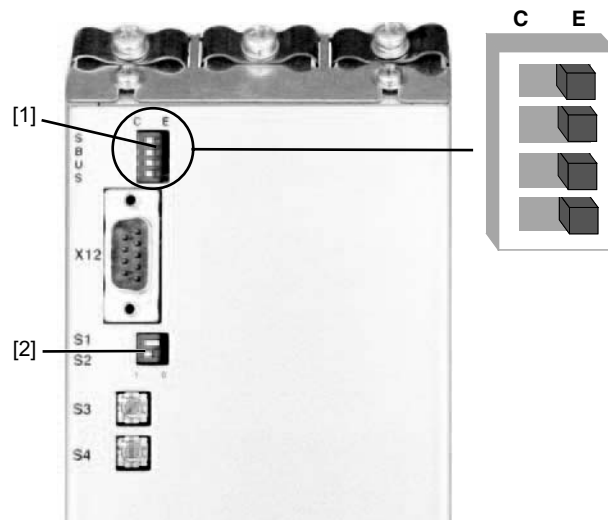

Figure 68: DIP switch settings on the supply module
- Set the 4 DIP switches on the supply module to setting "E", see Figure 68.